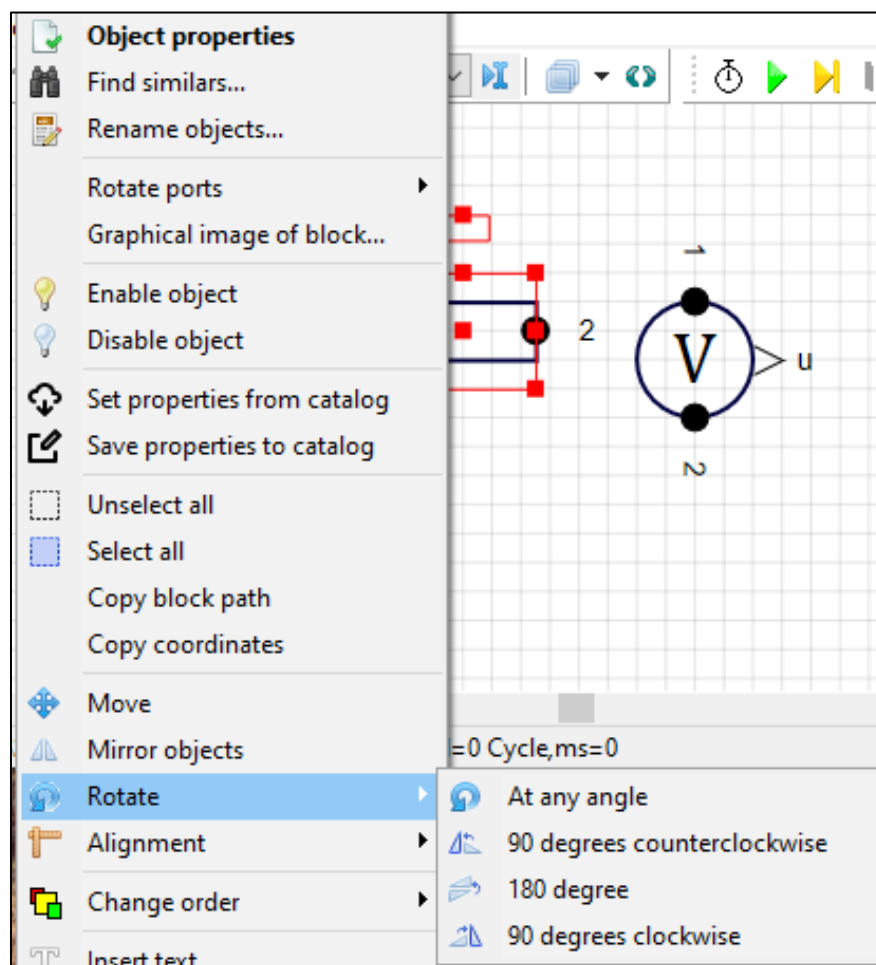

Figure 1.10
4. Select the **RLC-circuit** block, right-click and select the command **Rotate ⇒ 90 degrees clockwise** from the context menu that appears (Figure 1.10).